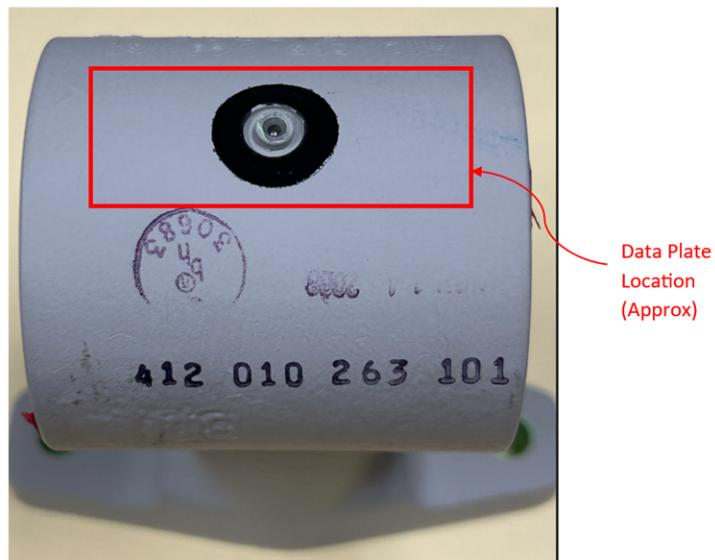

Figure 4: Data Plate Location
5.8 Affix Data Plate onto the Arm in the longitudinal direction (reference Figure 4) covering the grease fitting. The data plate indicates that the Arm Assembly has been altered by this STC with a self-lubricated bearing.